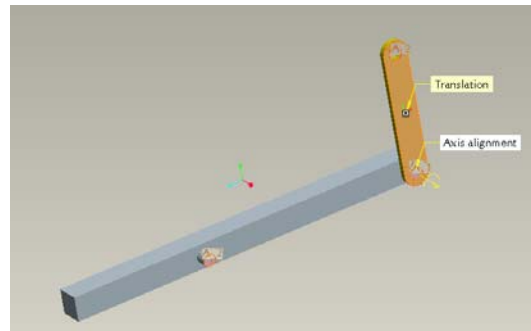

Figure 10
- e) Choose Surface F8 on part1 and surface F6 on part2 for translation as shown in figure 10 and click .